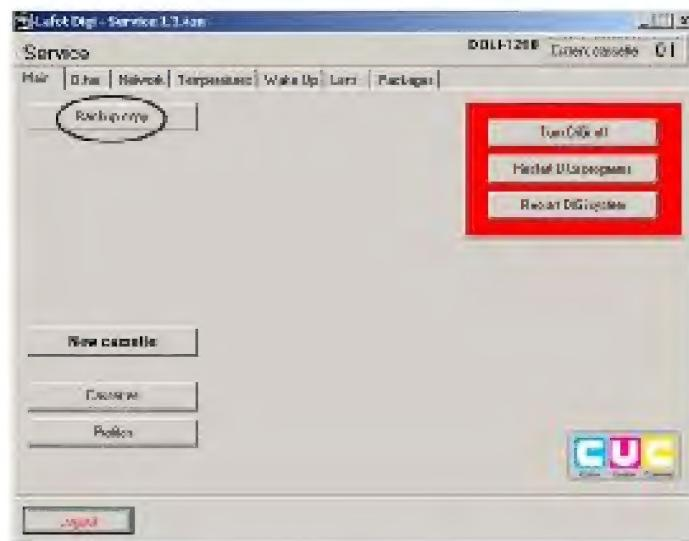

Fig 3.4.2
- Click Service, and then under Main tab click Backup copy (Fig 3.4.2).